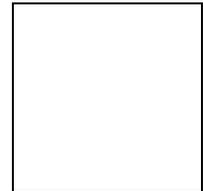

Figure 22
2. See Figure 22 and loosen the lock handle 'A' and lift up the motor using the handle 'B'. Once it is up all the way, tighten into place with handle 'A'.
4. Re-tension the belt making sure that the grooves up the belts are seated properly and aligned with the corresponding grooves of both pulleys. Use only light pressure on the motor tension rod and then lock into place with handle 'A' of Figure 22.